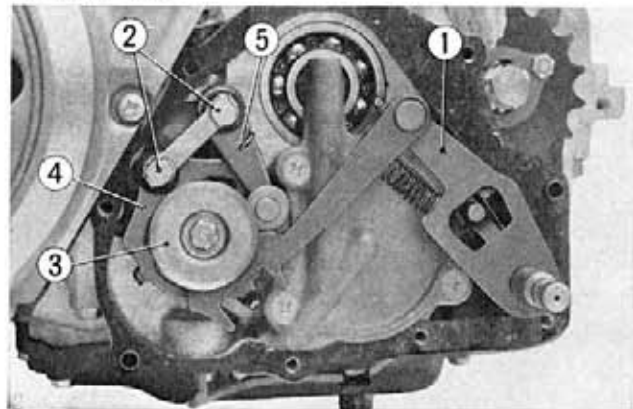

Fig. 3-70 ① Gear shift arm
② Advancer shaft special washer
③ Breaker assembly mounting screws
5. Remove the gear shift arm, gear shift side plate, gear shift drum stopper and the gear shift positive stopper. (Fig. 3-70)